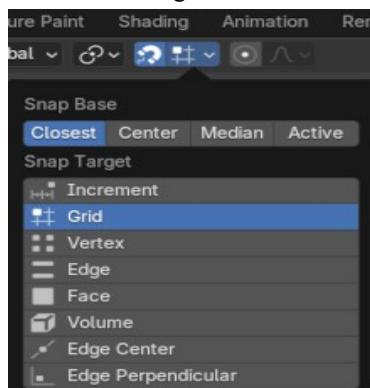

Figure 2-11 Using Snap to position vertices
2. Move the remaining vertex to a location above the origin ($X=0$, $Y=0$, $Z=1$ for instance, but the exact height doesn't matter). Rather than use the Sidebar Transform to set the positions to zero, as you did in the previous exercise, toggle the **Snap** magnet at the top and set Snap Target to **Grid** as shown in Figure 2-11. Use the X and Y orthographic views to position the vertex above the origin.